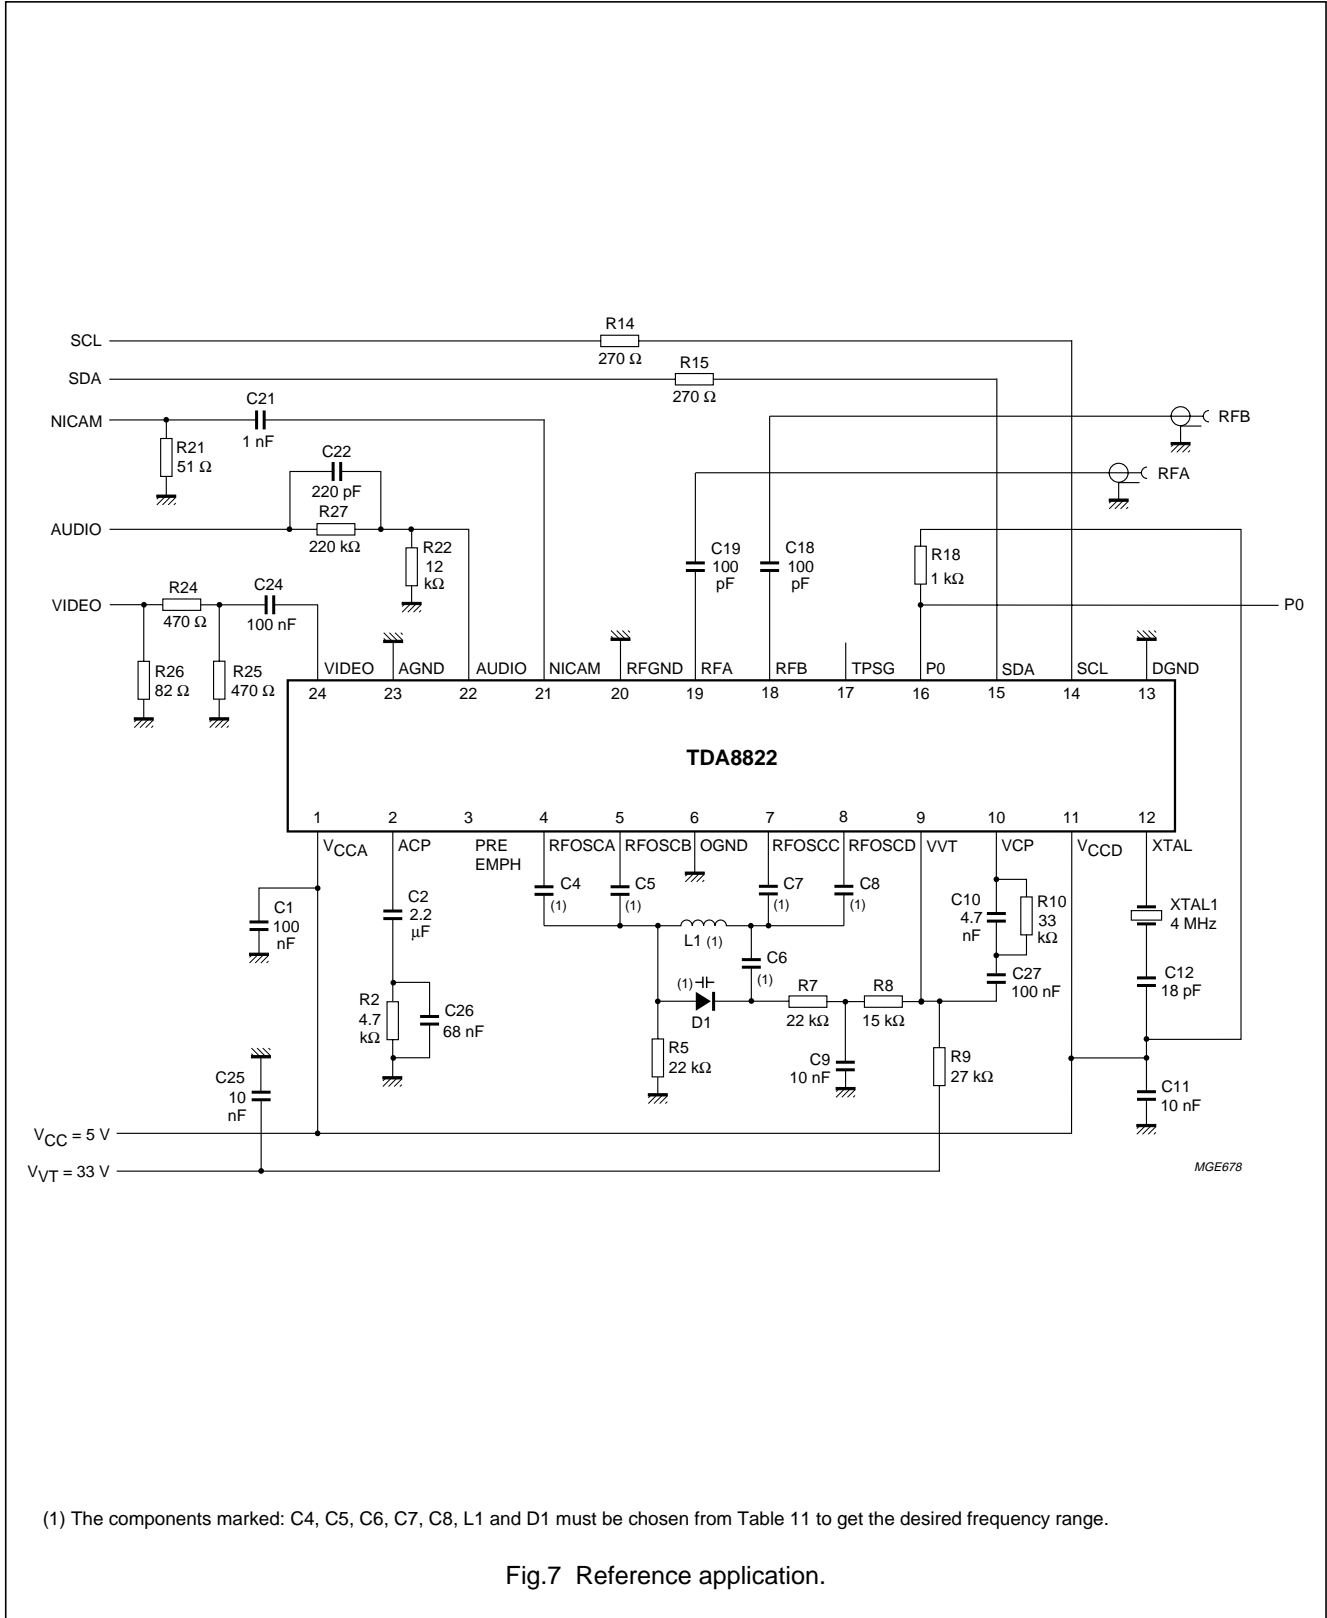

Fig.7 Reference application.
The frequency range the IC covers is fixed by the choice of the components marked with a note (1) in Fig.7. For these components, it is recommended to use the values indicated in Table 11.
To handle this kind of signal, we use a resistive divider with two 470 Ω resistors (R24 and R25 in Fig.7) to divide the 1 V (p-p) signal down to 500 mV (p-p). In order to get an input impedance of 75 Ω , a resistor of 82 Ω is implemented in parallel to the divider (R26 in Fig.7).
This pin needs to be grounded through a 12 k Ω resistor (R22 in Fig.7). Care must then be taken if a coupling capacitor needs to be implemented on the audio path to connect it between the signal source and the input, with the resistor of 12 k Ω still connected to the AUDIO pin.
It is necessary to connect the loop filter between this pin and ground. The loop filter indicated in Fig.7 gives a cut-off frequency lower than 20 Hz.